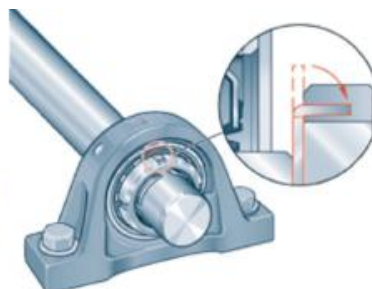

Figure 10
6. 按照分解图拆卸剩余部件（图 10- 1: 全套泵单元的拆卸）。
Bend the tab on the tab washer into a groove in the locknut to secure the nut against loosening, Figure 10.